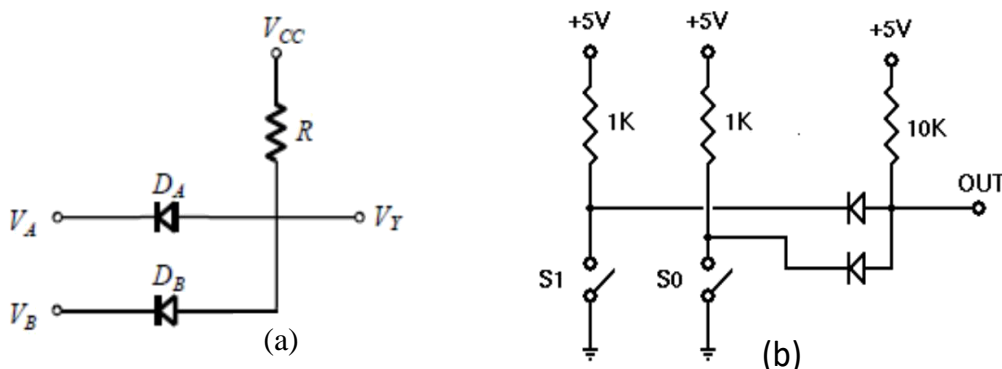

Fig. 2 DL AND Gate
2. Construct the DL-AND gate on your breadboard as shown in Fig. 2. Then draw a Truth Table similar to the one provided and fill in your experimental results.